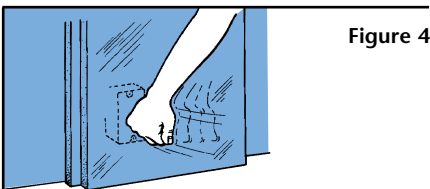

Figure 4
- Place insulation board over wood block and tap firmly with hand, forming an imprint of the block on the back side of the insulation board. Turn board over and cut out imprint. (Figure 4).